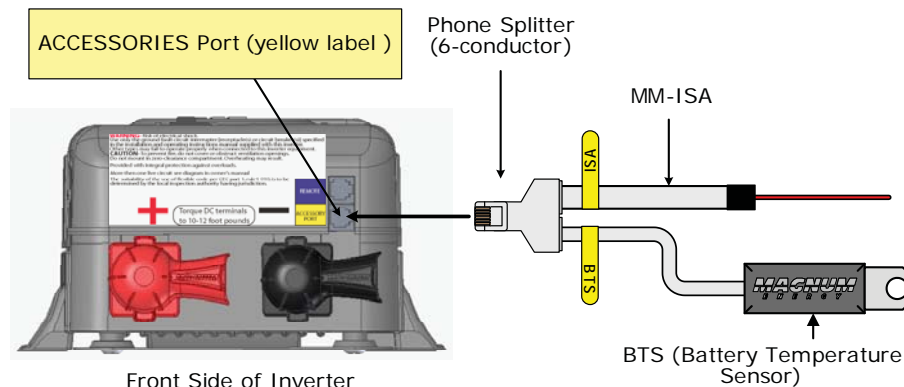

Figure 1, MM-ISA Connection to Inverter
2. The MM-ISA pigtail **must** be plugged into the ACCESSORIES port on the inverter. If using the BTS, then a 6-conductor phone splitter must be used to connect both the MM-ISA and the BTS. See Figure 1 below.